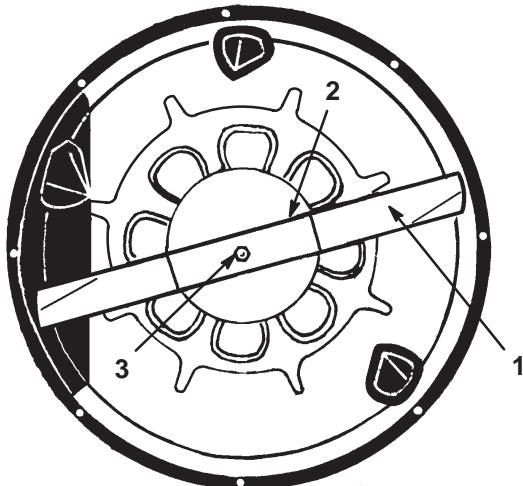

Figure 28
6. Grasp the end of the blade using a rag or thickly padded glove. Then remove the blade bolt, curved washer, blade stiffener, and blade (Fig. 28). A block of wood may be wedged between the blade and the mower to lock the blade when you are removing the bolt.
- Install the blade, blade stiffener, curved washer, and blade bolt (Fig. 28).